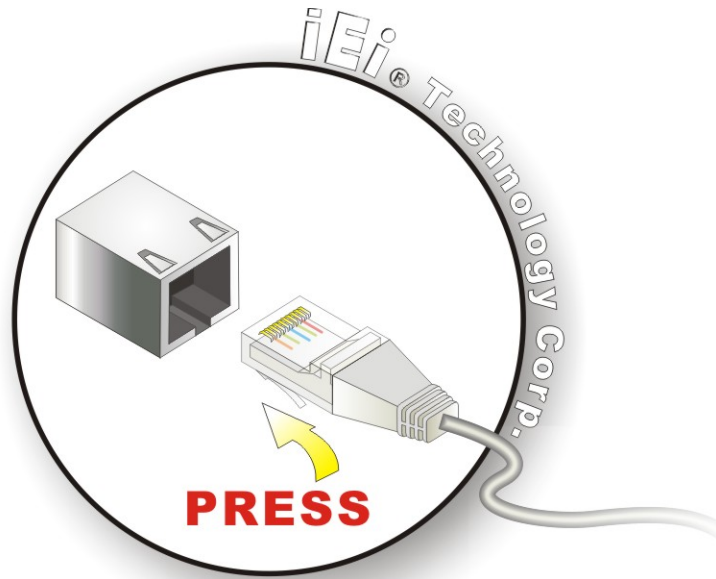

Figure 5-23: LAN Connection
Step 2: **Align the connectors.** Align the RJ-45 connector on the LAN cable with one of the RJ-45 connectors on the NANO-945GSE. See **Figure 5-23**.